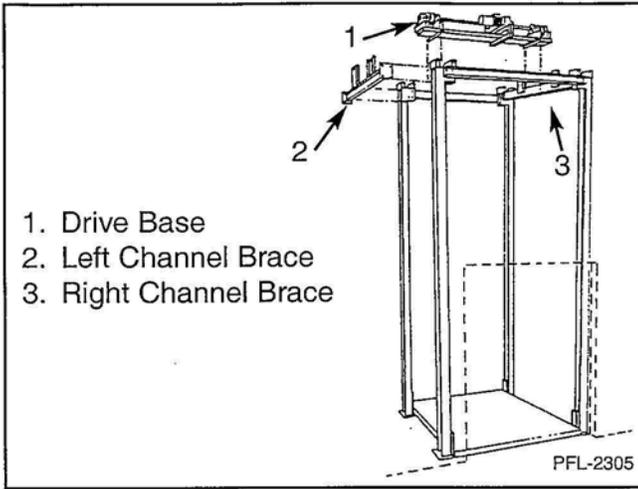

Figure 15
19. Raise drive base and set it in position. The motor should be facing the near side of the unit. See Figure 15.